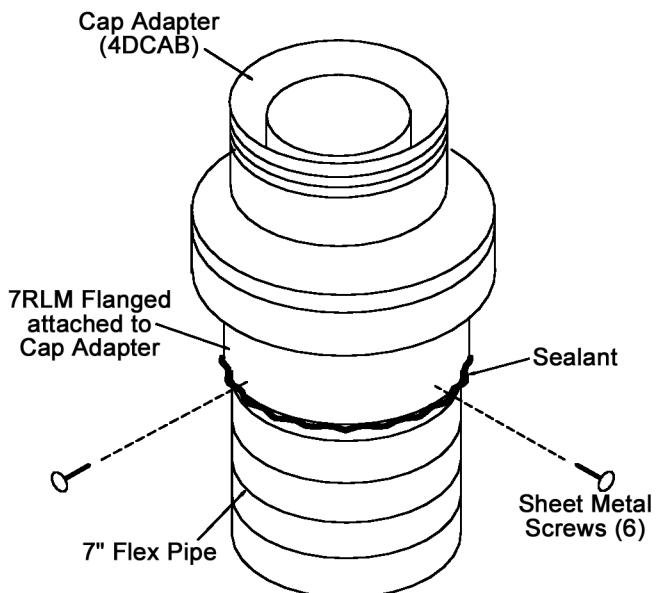

Figure 17
14. Remove the temporary support and attach the unflanged end of the 7RLM (attached to the cap adapter at this point) at the top end of the 7" flex pipe about 3" down the length of the flex with sheet metal screws. Put a bead of sealant around the seam of the 7RLM and the 7" flex. See Figure 17.